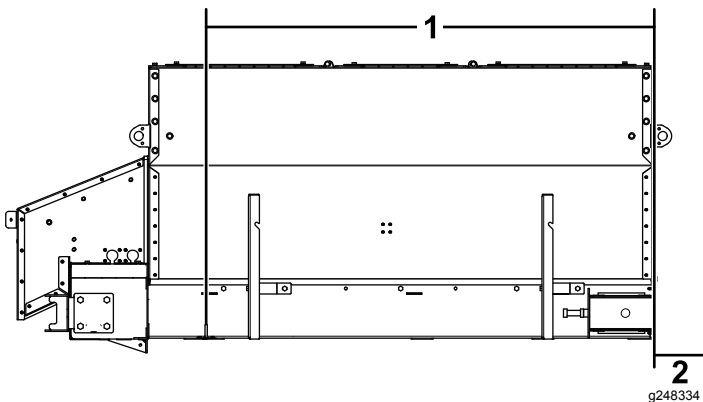

Figure 8
1. Mark and drill the holes (7/16 inch) for the D-rings starting with the D-rings closest to the cab, as shown in Figure 8. The cab side D-rings will be positioned inside the spacer.